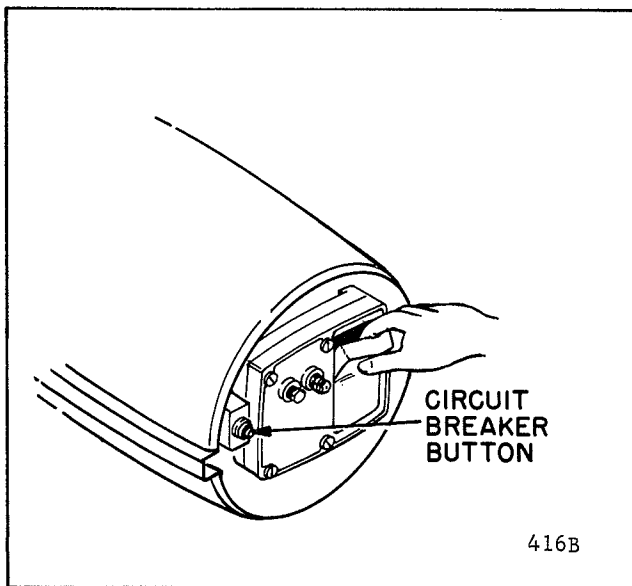

Figure 5. Removing Intake Air Filter
five minutes then press in on the reset button (See Figure 5).
1. Check and clean the intake air filter often. The filter needs cleaning if you can see a film of dust on it. It will need cleaning more often if the heater is operated in dusty air. See Figure 5.